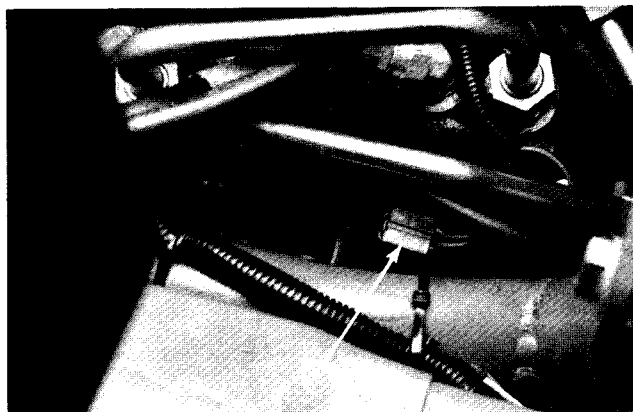

Figure 8
1. Disconnect the traction switch wire connector and install a continuity tester or ohm meter between the two leads of the traction switch (Fig. 8).
2. Make sure the shift selector is in the neutral (N) position. There should be continuity when the shift selector is in the neutral (N) position. If there is no continuity adjust or replace the switch. (See Traction (Neutral) Switch Replacement and Adjustment in the Repairs section of this book.)